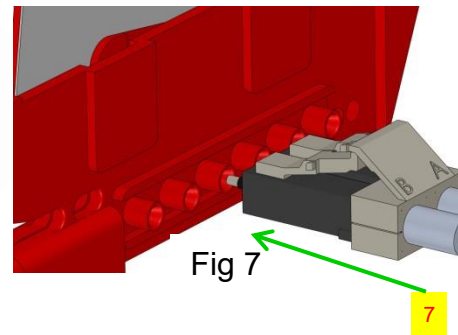

Fig 7
3. Slide the fiber into the LC connector housing so it bottoms out in the connector (Figure 7).